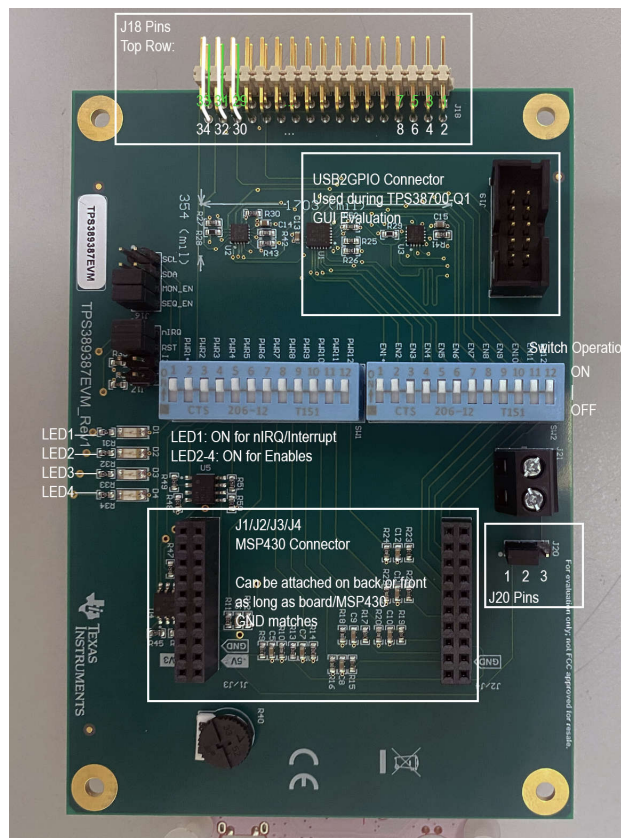

Figure 2-1. Labeled TPS389387EVM Pins and Connector Locations
- a. Check output voltages by measuring waveforms resultant from connections between pins in the header (J18) and oscilloscope. For more clarity on the pin locations, look at the schematic or Figure 2-1.